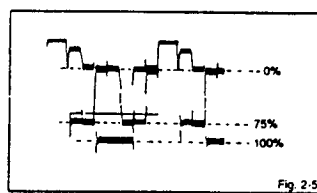

Fig. 2-5
4. Adjust the VOLTS RANGE VARIABLE knob of the oscilloscope until the range between white 100% and 0% is set to 4 scales on the screen of the oscilloscope. Press the VOL. UP/DOWN key on the remote control until the red colour level is adjusted to 75% for the white level. (Refer to Fig.2-5)